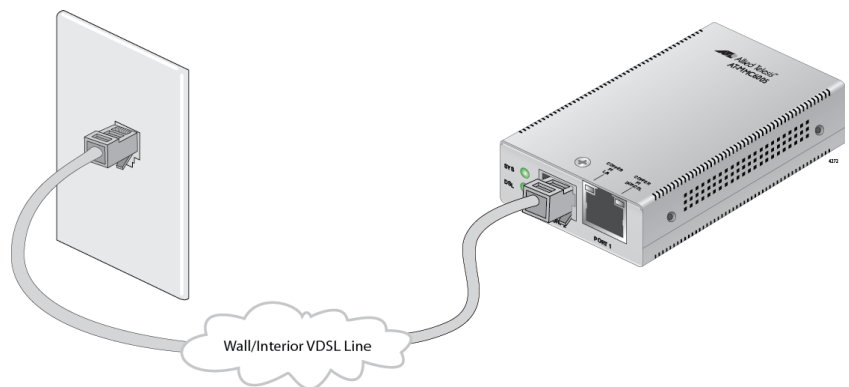

Figure 18. Provider Unit to Wall Plug or Interior VDSL Line in Building
2. Connect the VDSL Line port on the Provider unit to the VDSL wall jack or the building VDSL line in the building with either a phone line for the AT-MMC6005 or a coax cable for the AT-MMC6006 as shown in Figure 18. This connection allows the Provider unit to communicate directly with the Subscriber unit.